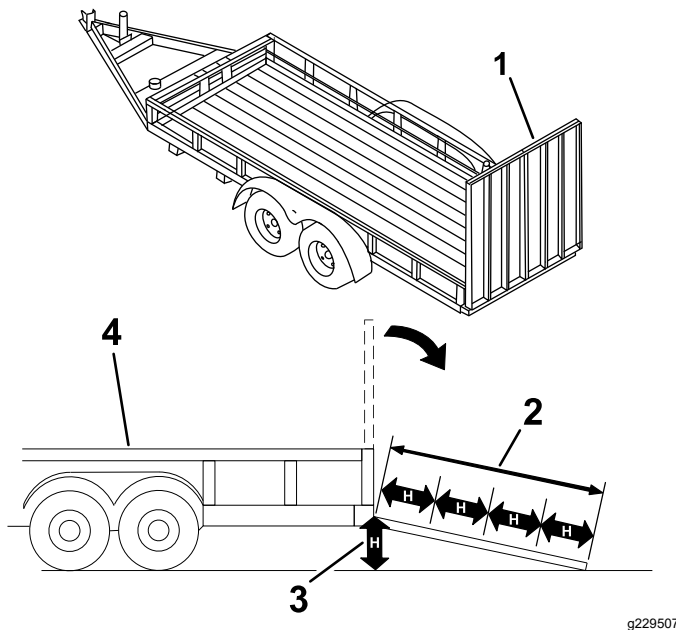

Figure 24
Loading a machine onto a trailer or truck increases the possibility of tip-over and could cause serious injury or death (Figure 24).
3. Lower the ramp (Figure 24).